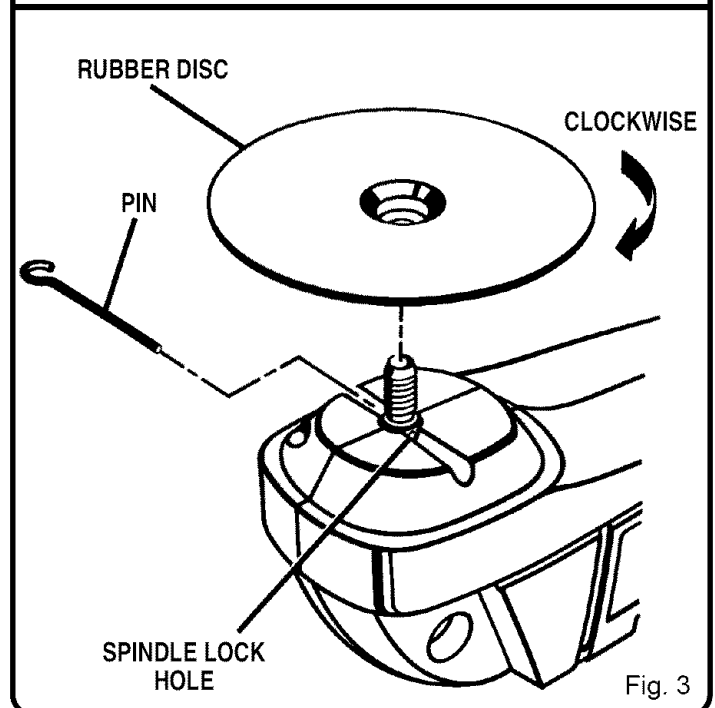

Fig. 3
See Figure 3.
2. Position the tool as shown in figure 3 and align the spindle lock hole with the two half-circle notches in motor housing. Lock spindle by inserting the pin provided through spindle lock hole and trapping it in half circle notches. This will prevent spindle from rotating.